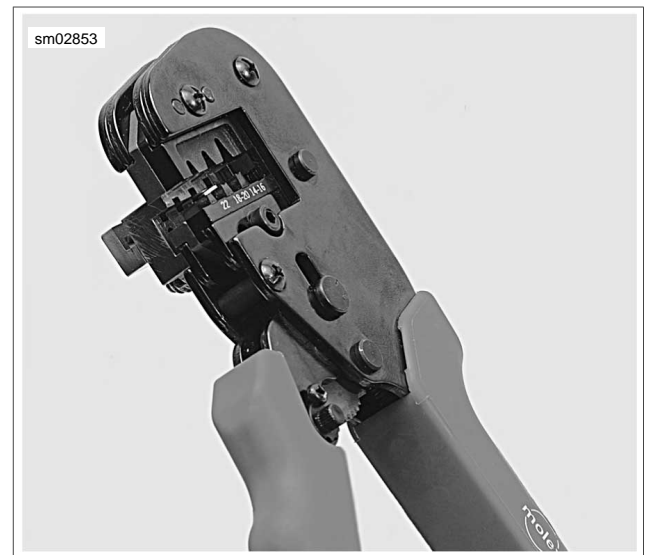

Figure A-32. Open Electrical Crimp Tool (HD-48119) at 45 Degrees
3. See Figure A-32. Hold fully open tool at approximately 45 degrees.